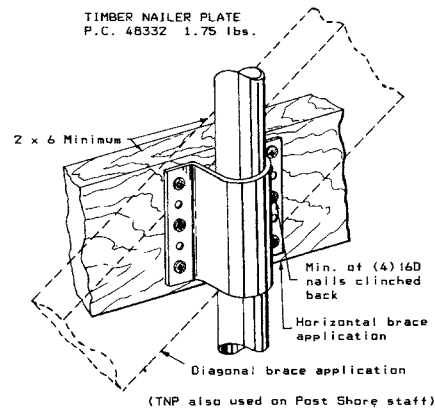

Fig. 26
The Timber Brace Nailer Plate (Fig. 26) permits the use of any width lumber (2" x 6" min.) to brace shore legs or post shore staffs of 2 3/8" O.D., providing a quick, friction connection. A minimum of four 16d nails (clinched over in back) per clip are required.
14. When the height-to-width ratio reaches 4:1, lateral bracing must be installed before proceeding any higher. Timber Nailer Plates and 2x6 minimum lumber (Fig. 26) is used for this purpose.